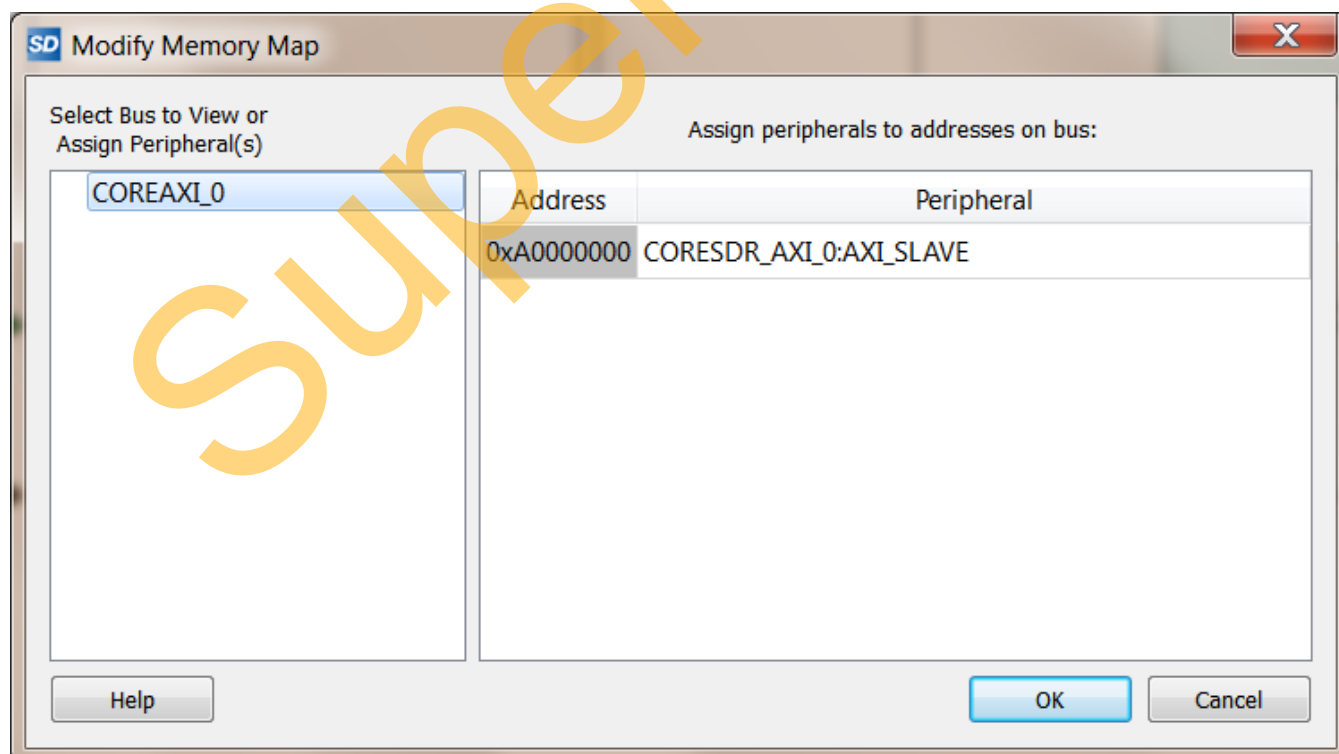

Figure 26. Memory Address of the CORESDR_AXI_0
4. After generation, you can see the Memory Map for the CORESDR_AXI_0 component. Right-click the **Access_EXT_SDRAM** SmartDesign window and select **Modify Memory Map**. Figure 26 shows the resultant memory map. The starting address of the MDDR Space 0 is 0xa0000000 in the Cortex-M3 processor's address space.